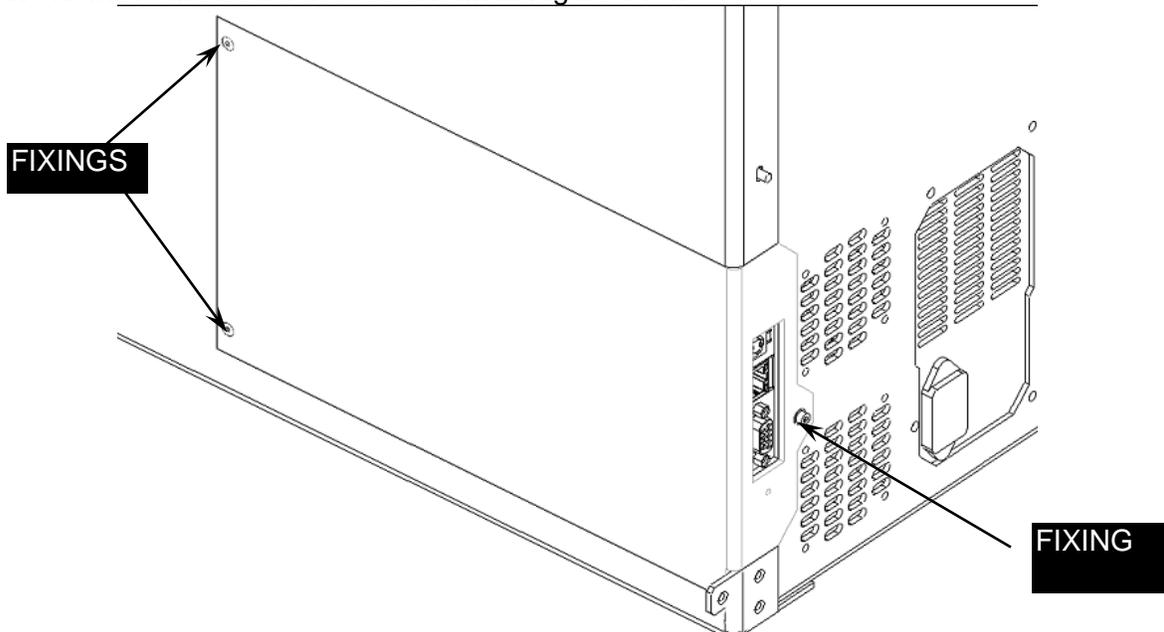

Figure 14-4: Board Door
1. Remove the board door as shown in Figure 14-4.